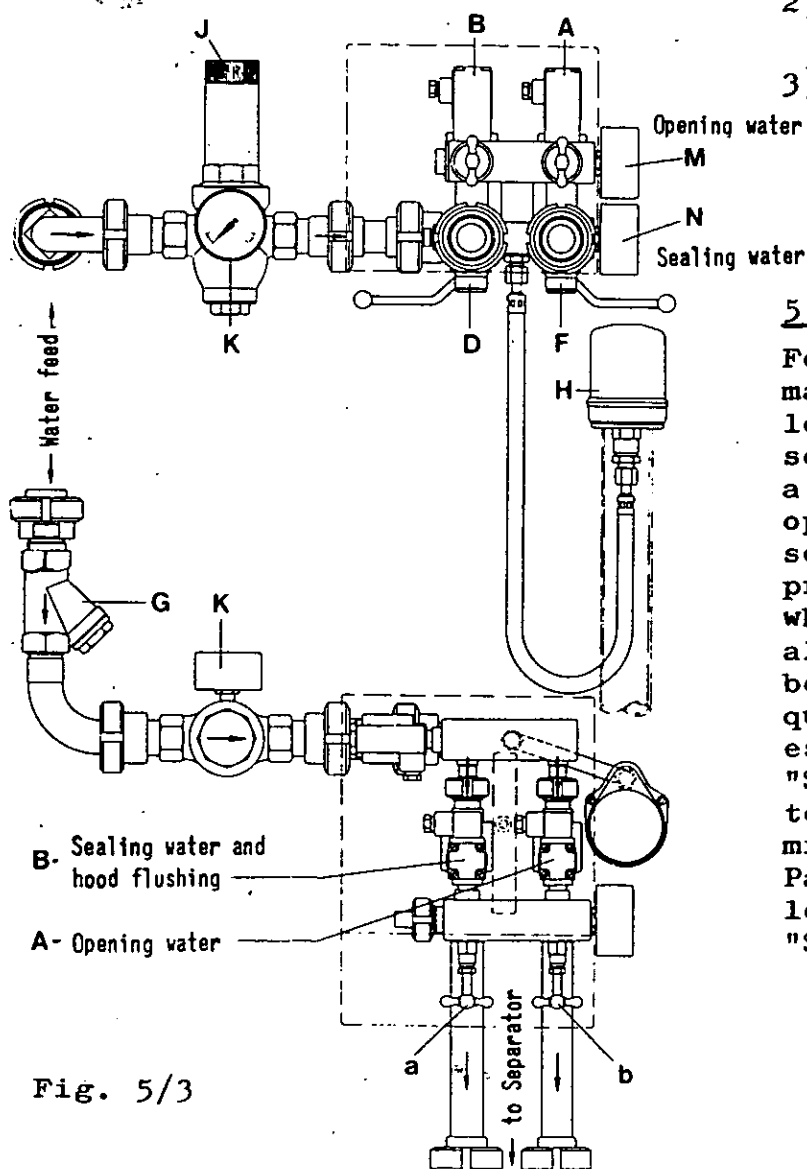

Fig. 5/3
When opening-water valve is opened for sediment ejection, water flows through channel 5 to valve 6. The water pressure pushes valve piston 7 inwards thus opening channel 10. The water contained in sealing chamber 3 can then flow off (fig. 5/1c). As the liquid level recedes, the sealing pressure acting on the underside of the piston quickly decreases. As soon as it is smaller than the opening pressure acting on the upper side of the piston, the latter is pushed downwards, thus opening the ports in the bowl bottom for solids ejection.
The operating-water connection is provided with a water-pressure reducer K (fig. 5/3) by means of which the line pressure is to be throttled to 1 bar. To adjust the water-pressure reducer, proceed as follows:
- 1) Open rapid-closing valve D (fig. 5/3) all the way.
The pressure gauges M and N (fig. 5/3) merely serve for checking the closing and opening operations.
To accomplish partial ejection, opening-water is briefly fed to the bowl via solenoid valve A (fig. 5/3). The duration of opening-water supply (= duration of partial ejection: 0.5 to 2 seconds) varies with the amount of ejected sediment and must, therefore, be determined by tests which can be carried through with water. During each partial ejection an additional amount of approx. 0.2 litre/sec. of flush water flows off through the sediment discharge. This amount is to be deducted from the measured total volume.
When the time adjusted at the timing relay "Separation" has elapsed (1 hour when separating milk and 15 to 30 minutes when separating whey), the first partial ejection takes place. The timing relay "Pre-flushing" is to be set so as to ensure opening of the solenoid valve B "Sealing and flush water" (fig. 5/3) 10 seconds before each partial ejection. The water injected into the hood will prevent incrustation of the sediment.
On this occasion clean and wipe dry guide surfaces and threads and apply a thin film of the special lubricating paste supplied. After having removed sliding piston 4 (fig. 5/1a), clean sealing chamber 3 with special care.